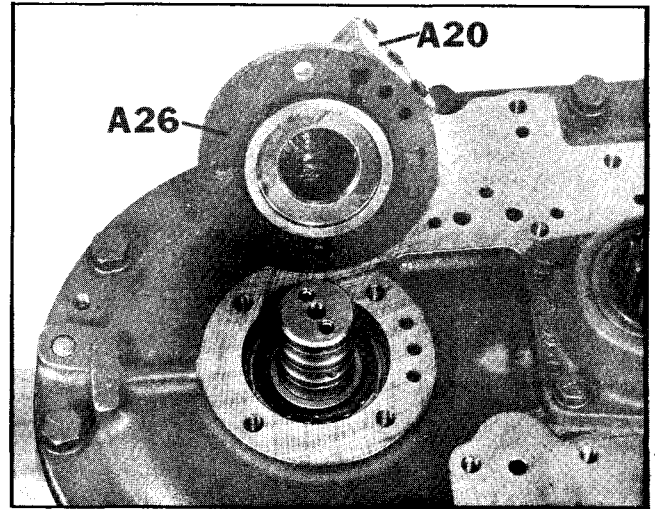

Figure 58
20. Loosen bolts and remove cover. (Figure 58).